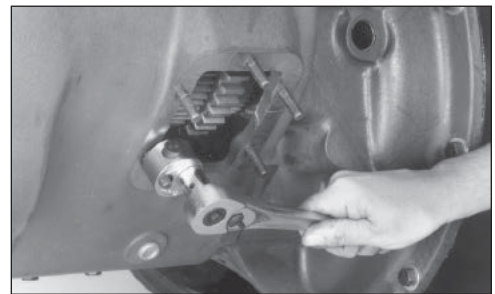

Figure 8
4. Install the proper studs (furnished with PTO) in the PTO aperture pad using a stud driver. Studs may have either interference fit threads (plain) or pre-applied locking/sealing compound for installation method (**Fig. 8**).